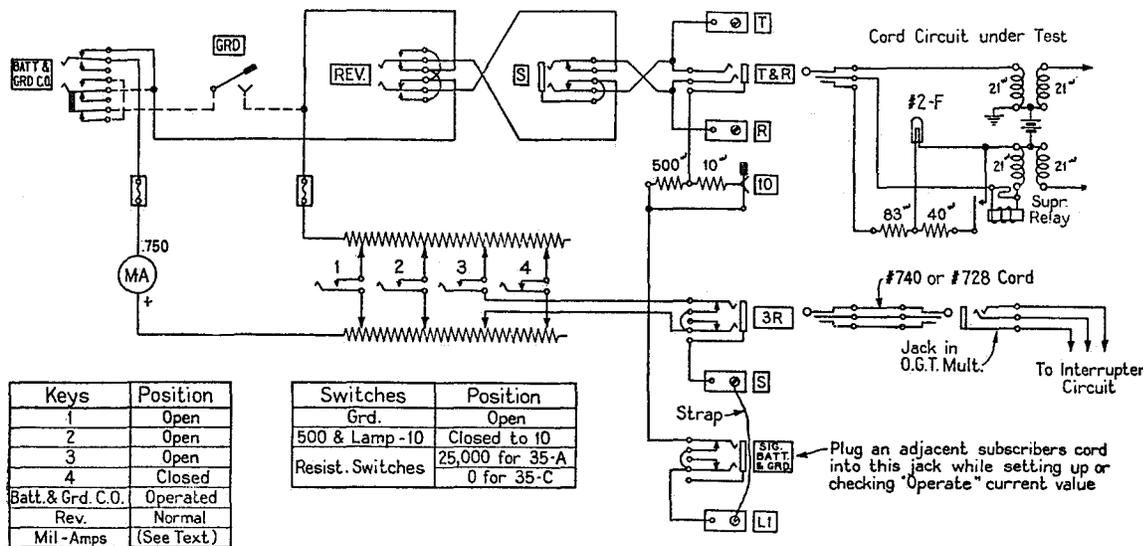

FIG. 2—TESTING SUPERVISORY RELAYS AT FRONT OF SWITCHBOARD—USING NO. 163-A INTERRUPTER CIRCUIT FOR INTERRUPTING "OPERATE" CURRENT
3. Arrange test set keys and switches as shown in Fig. 2.
5. With the locking lever of key No. 4 closed as shown in Fig. 2, move the No. 4 resistance slides to the left until the approximate specified "release" value is observed on the milammeter; after the approximate value is obtained, operate key MIL-AMPS to 15 (37.5 on the No. 35-A set) and check the accuracy of the reading on the .015 ampere scale (.0375 ampere scale on the No. 35-A set). Make any further changes in the resistance slides which may be necessary to obtain the exact specified "release" value and then release MIL-AMPS key.